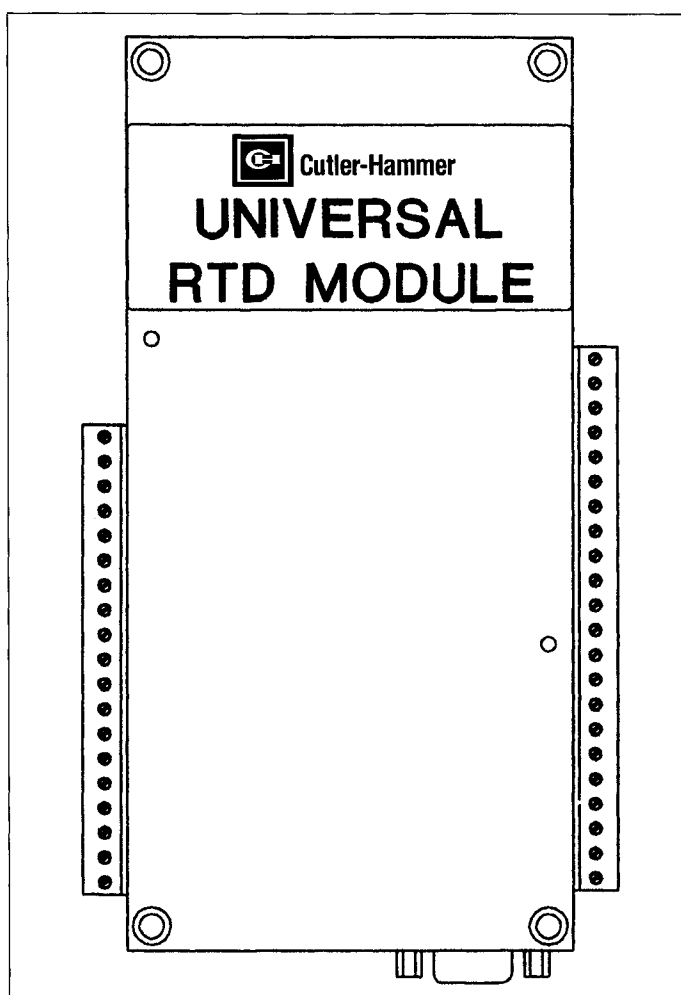

Fig. 2.3 Universal RTD Module
2.1.3.1 RTD Module Option — The Universal RTD Module is a separately purchased optional device (see Figure 2.3) which interfaces with the motor RTDs and the IQ-1000 II. The RTD inputs connect to the terminal blocks of the RTD Module as described in Paragraph 5.1.2 and the RTD itself connects to the IQ-1000 II through the fiber optic connector and/or the communications port.